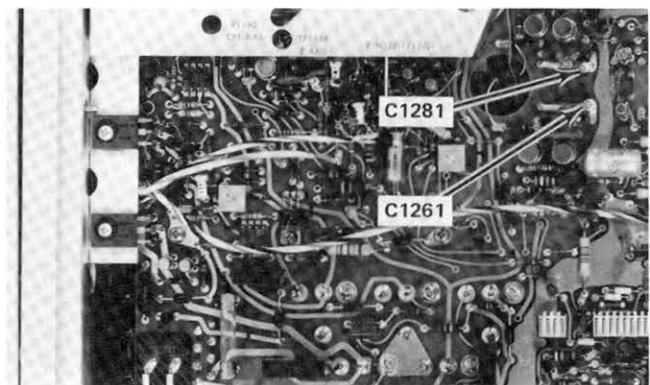

Fig. 5-32. Location of Magnified Timing adjustment.
d. ADJUST—Magnifier Timing adjustments, C1261 and C1281 (see Fig. 5-32), with the low-capacitance screwdriver for one cycle/two divisions. Disregard the first and last ten divisions of sweep length.